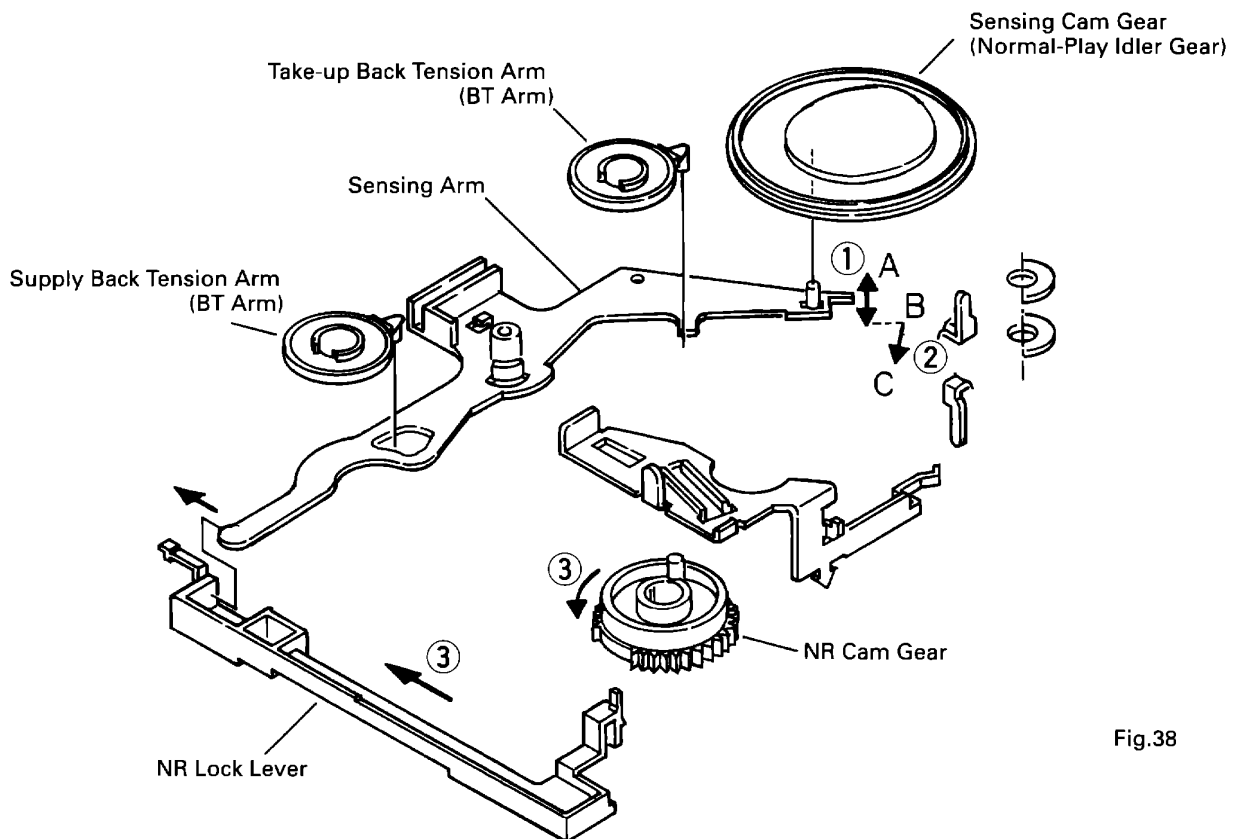

Fig.38
- ① **During tape running**The Sensing Arm is disturbed by the pull of the Back Tension Arm (BT Arm) for the Take-up Reel (Position A to B in Fig. 38).
- ② **Tape ends**The pull of the BT Arm disappears, and the Sensing Arm stops at the B position. The Sensing Arm is then drawn in to the C position by the triangle cam of the Sensing Cam Gear.
- ③ **Tape direction change**As the Sensing Arm is drawn in to C, the NR Lock Lever slides in the direction of an arrow. It unlocks the NR Cam Gear to start rotating it. Then, the tape running direction changes.